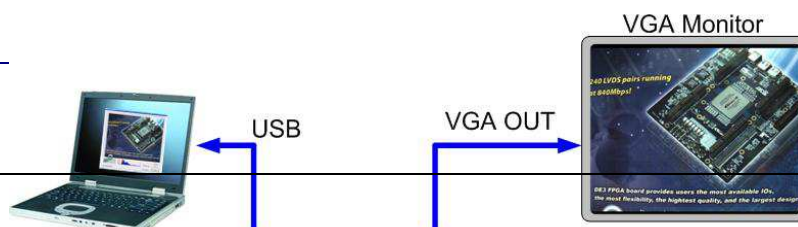

Figure 3.4. The Connection Setup for DE2-70 users
1. Ensure the connection is made correctly as shown in Figure 3.4. Make sure the D5M is connected to **J5 (GPIO 1)** of the DE2-70 board.